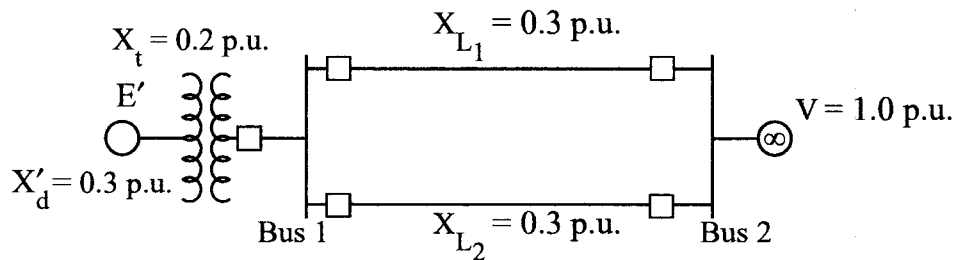

Fig. 7(a)
- Q7. (a) A 50 Hz synchronous generator having inertia constant $H = 5$ MJ/MVA and a direct axis transient reactance $X'_d = 0.3$ p.u. is connected to an infinite bus through two parallel lines as shown in Fig. 7(a). Reactances are marked at the respective components, on a common system base. The generator is delivering real power $P_e = 0.8$ p.u. and $Q = 0.074$ p.u. to the infinite bus at a voltage of $V = 1$ p.u. Determine :